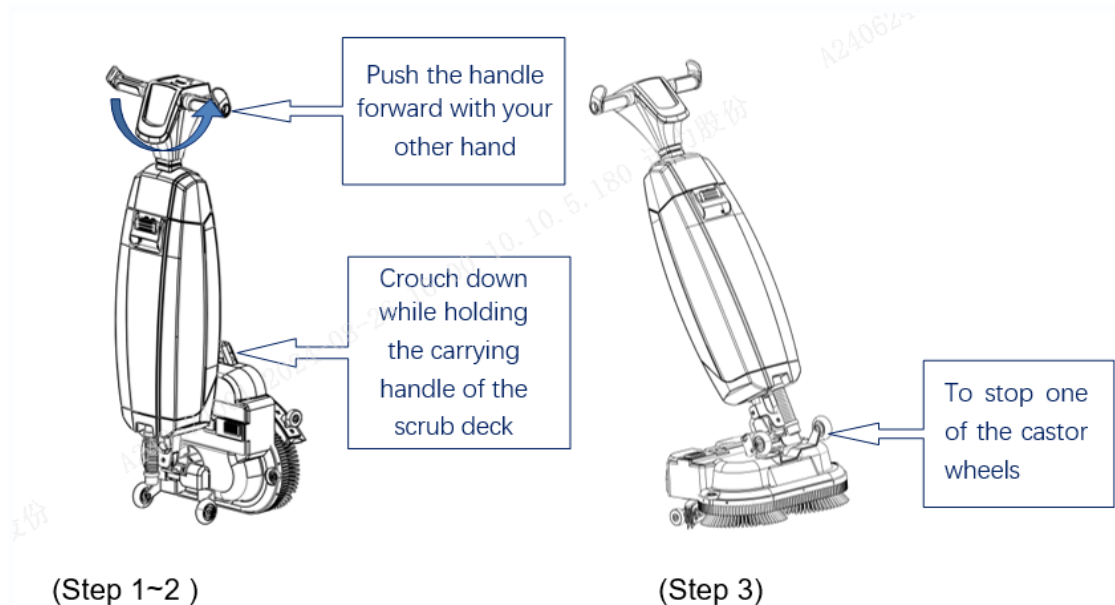

FIG.5
2. Hold the handle with one hand as shown in FIG.5.